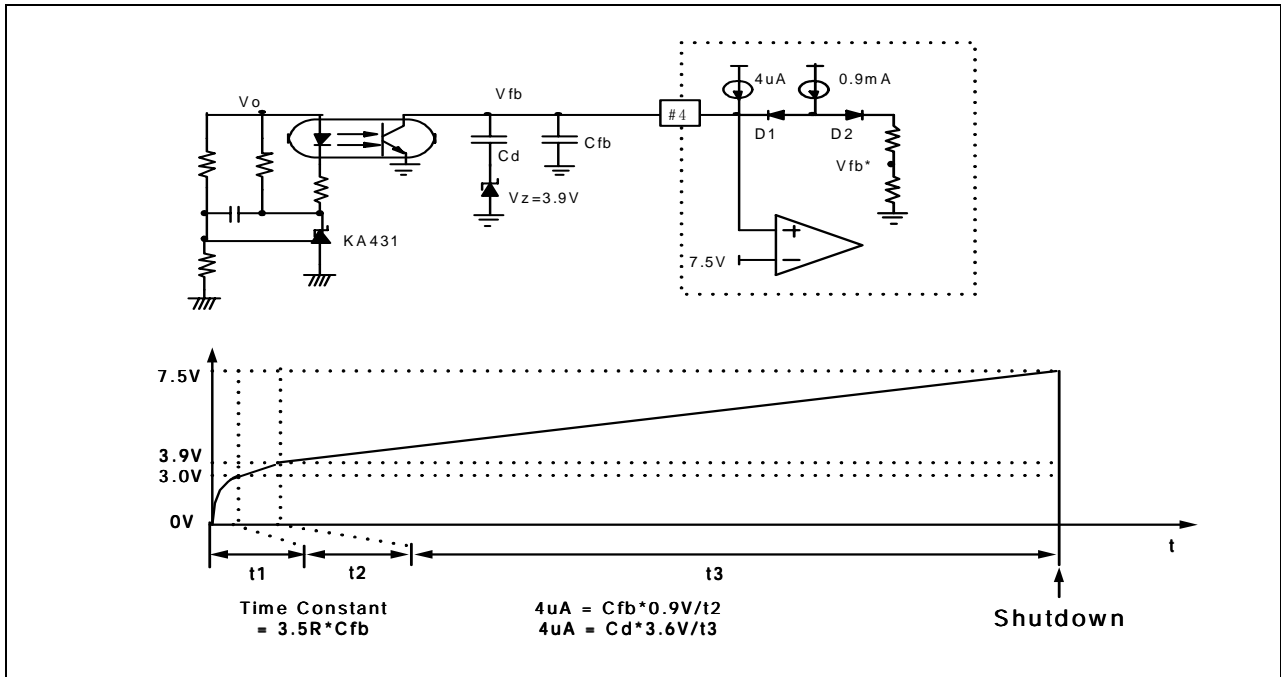

Figure 3. SPS Delayed Shutdown
SPS shutdown. If a part of delay current go through the added resistor, the time to shutdown can be lengthened. In our test the delay shutdown time with C_{fb} (473) and resistor (3.9M) is about two times longer than with only C_{fb} (473). When V_{fb} is 7.5V, the current flowing through this 3.9mΩ resistor is approximately 1.9μA. To obtain the same results, if a zener diode (about 3.9 ~ 4.7V) in series connection with a capacitor is parallel-connected to C_{fb} , as depicted in Fig 3., the desired shutdown delay time could be obtained according to the size of the capacitor.